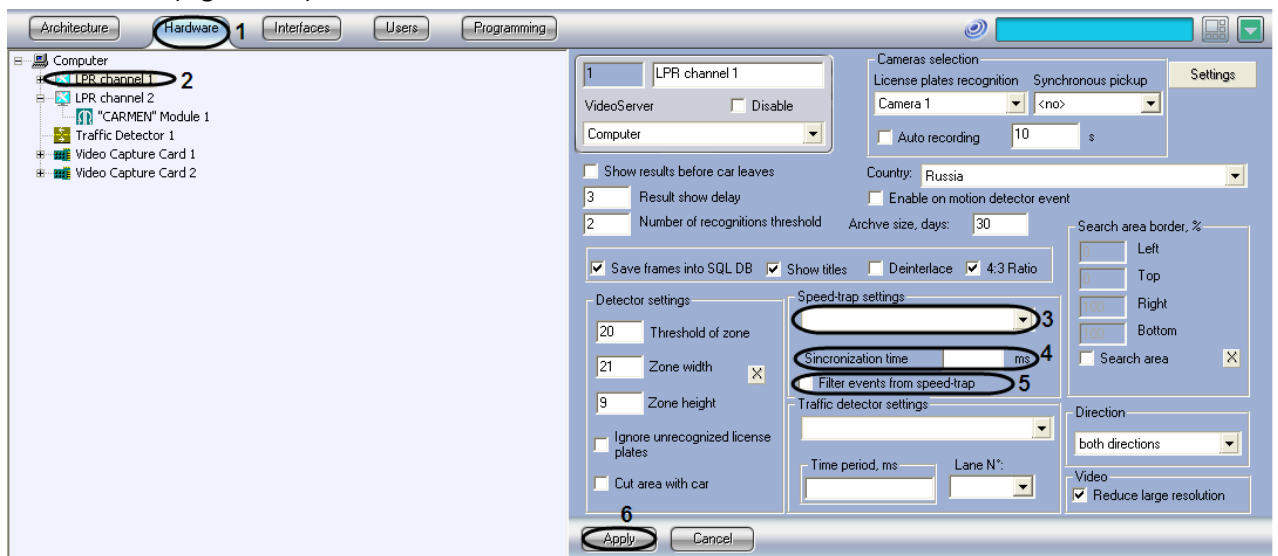

Fig. 7.2-19 Setting up the Joint operation of LPR channel and Radar modules
2. In the object tree on the left side of the Hardware tab, select the LPR channel, corresponding to the activated Auto-Uragan3.3.5.18, CARMEN-parking or CARMEN-Auto program module in the objects tree on the Hardware tab (see. «Program module activation, used for Plates identification»). The settings panel of the selected object will open on the right side of the window (Fig. 7.2-19).